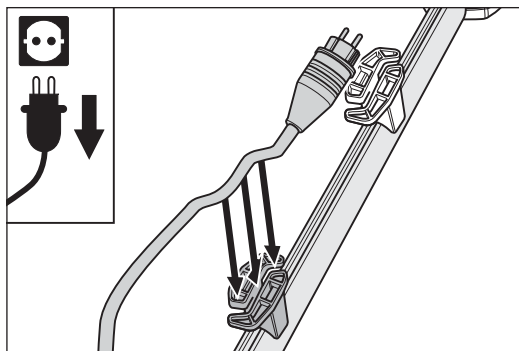

Fig. 2 Insert the motor cable in the lower cable holder on the guide tube.
**3** Insert the motor cable in the lower cable holder on the guide tube (Fig. 2).